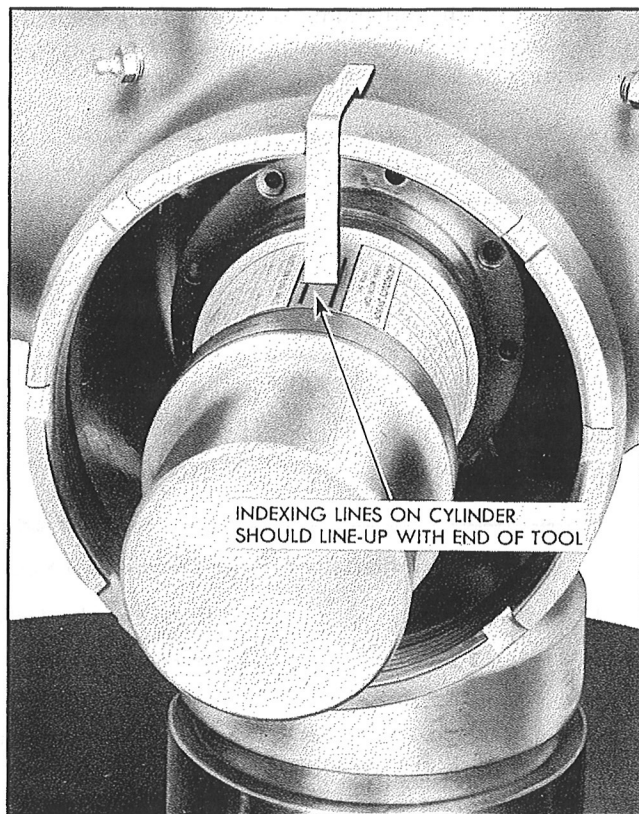

Figure 121—Assembly of the Torque Unit
**Step 17.**—Place the Indicator Tool, Figure 66-5 on the castellation in the front of the hub socket. Align the end of the tool with the two index lines on the cylinder exterior. See Figure 121. Engage the splines and slide the cylinder and piston inward on the fixed spline until the cylinder contacts the blade gear.
2. Engage the internal piston spline with the fixed spline so that the two index marks on the outside of the blade cylinder line up with the indicator tool in the castellation in the front end of the hub socket. See Figure 121. Push the cylinder and piston home.